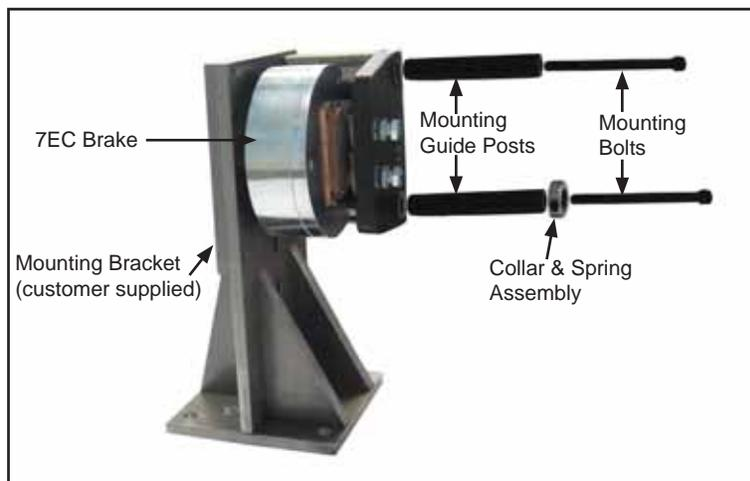

Fig. 4: Mounting Components
- B. Insert the guide Posts and Mounting Bolts shown in Fig. 4. The bolts need to be M12 diameter, class 12.9 DIN 912 (as supplied by Stearns), or 1/2" diameter, ASME/ANSI B18.3.
- E. Slide the disc assembly onto the shaft, but do not yet tighten down its position on the shaft. Slide the brake onto the guide posts, and over the disc. The brake can be mounted as shown in Fig. 4, or in the opposite orientation with the brake side away from the mounting
bracket. The preferred location is such that the disc is closer to the shaft support bearing. Position the disc between the friction pads, while keeping enough room along the guide post to mount the collar & spring assembly (also shown in Fig. 4).
- F. Mount the collar and spring on one of the Guide Posts, on the “back” side of the mounting bracket, as shown in fig. 4. Position the collar such that the wavy spring lightly pushes the brake away from the disc, eliminating any rubbing between the disc and friction pads. Tighten to secure the collar in place after finding this balance.